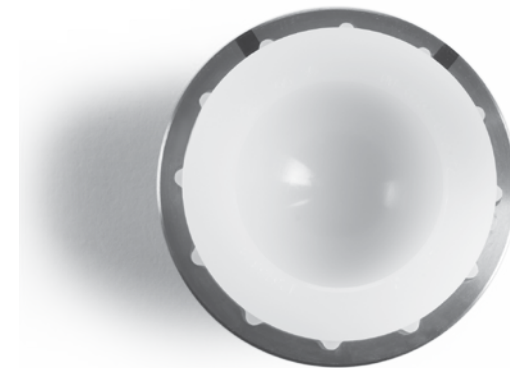

Fig. 11
- Liner sizes 28 HH - 28 QU, 32 JJ - 32 VV, 36 LL - 36 VV do not have a lip which allow for visualization of the anti-rotation tabs. Run a finger around the Shell face to ensure the antirotation tabs are flush relative to the Shell face (Fig. 11).